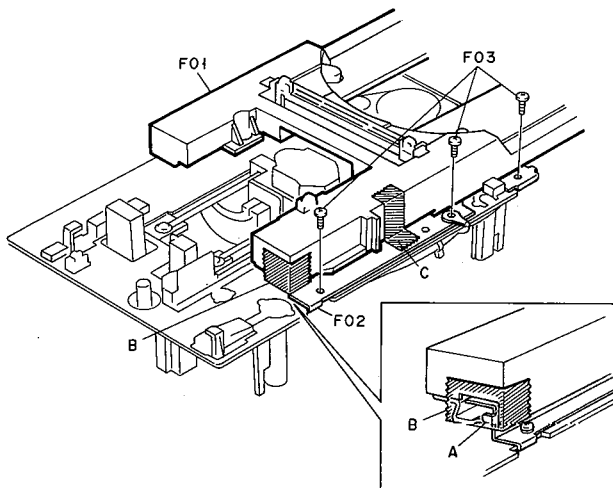

Fig. 2.10.1
Refer to Figs. 2.10.1 to 2.10.4.
- (1) Remove the Disc Mechanism Ass'y referring to item 2.7.
- (2) Remove the Chuck Arm Ass'y referring to item 2.8.
- (3) Slide F01 (Disc Tray Ass'y) until the end of F01 (Disc Tray Ass'y) meets section A of F02. See Fig. 2.10.1.
- (4) Apply adhesive tapes B and C to positioning F01 (Disc Tray Ass'y) and to stick F02.
- (5) Loosen screws F03 (3 pcs.).
- (b) Peel off adhesive tapes B and C. Refer to Figs. 2.10.1.